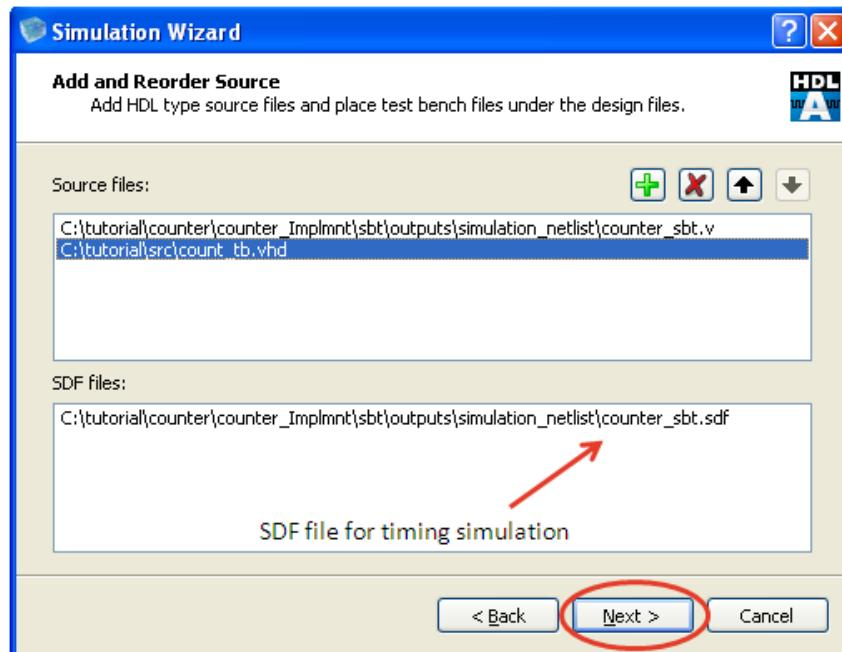

Figure 10-20 : Add Test bench File.
- The simulation wizard automatically adds the post routed netlist “**counter_sbt.v**” in “Source files” panel and the verilog delay format file “**counter_sbt.sdf**” under “SDF files” panel as shown in Figure 10-20. Click on “+” icon to add the “**count_tb.vhd**” test bench to the “Source files” panel. Click on “Next”.